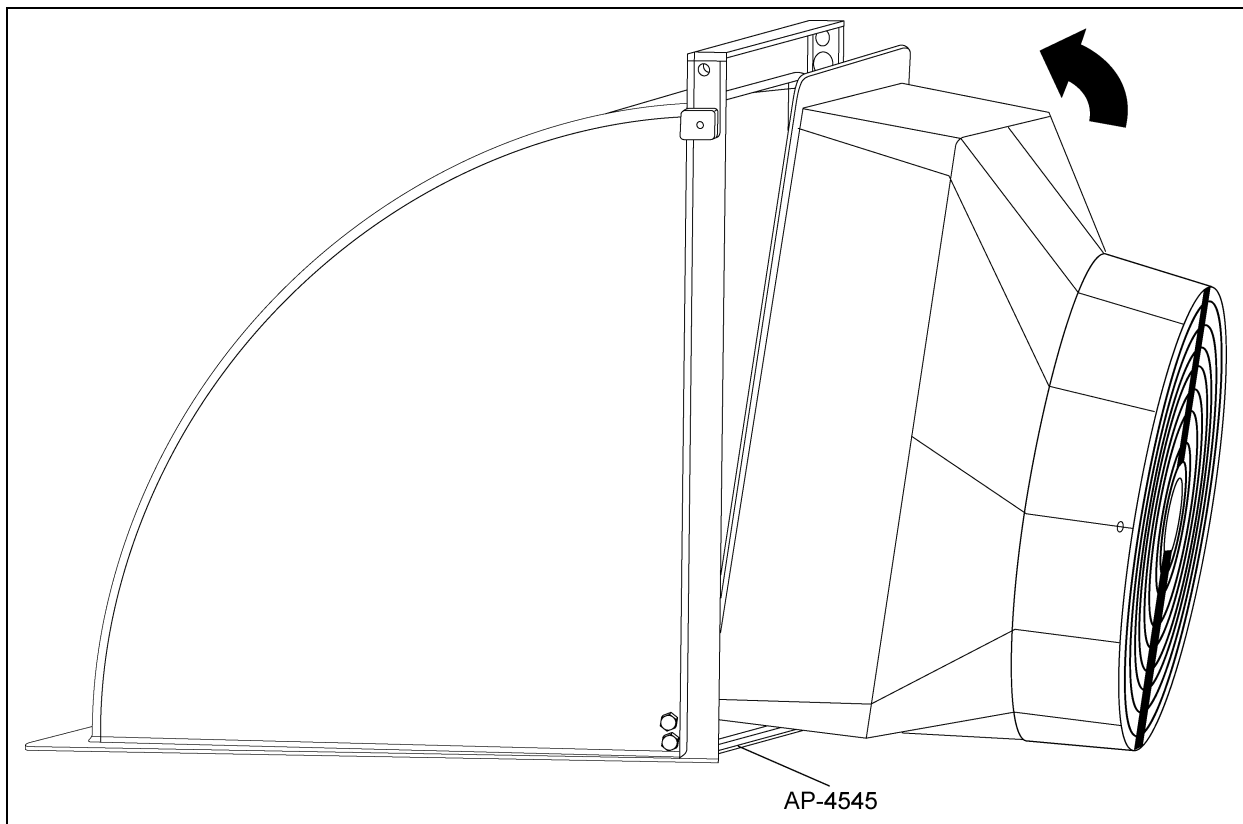

Figure 2F
Step 4: Insert the bottom flange of the fan into the channel of the bracket AP-4545. (See Figure 2F.)